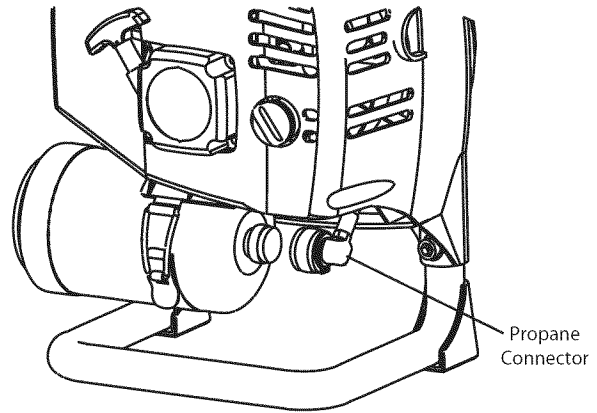

Fig. 6
4. Insert the propane connector onto the threaded end of the canister and screw it onto threads clockwise (Fig. 6). Screw it until snug. Do not over tighten. It may be normal to hear or smell a slight momentary leak of propane as the connector is being screwed in. Make sure that the connector is installed tight enough that any leakage stops. Hand tight is sufficient.